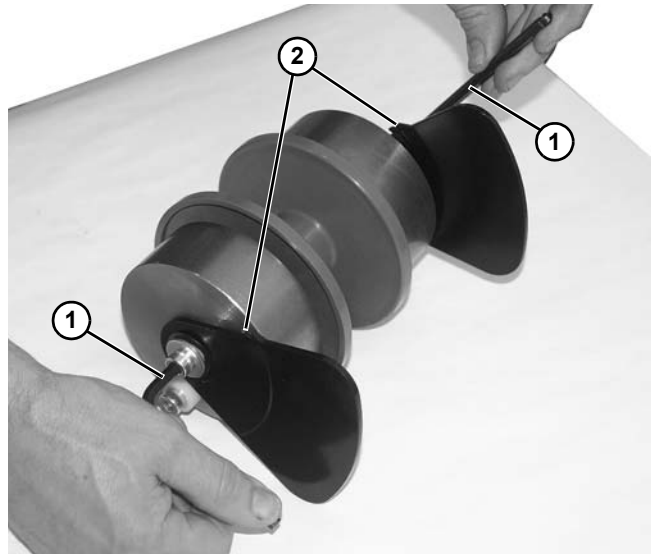

Figure 154
10. Install components reverse of removal, using two hex wrenches (**Figure 154, item 1**) on each side of idler assembly to tighten components.
*Be certain that notches (**Figure 154, item 2**) on both plates are on top side, and spacers are in same orientation, as shown, before tightening components.*